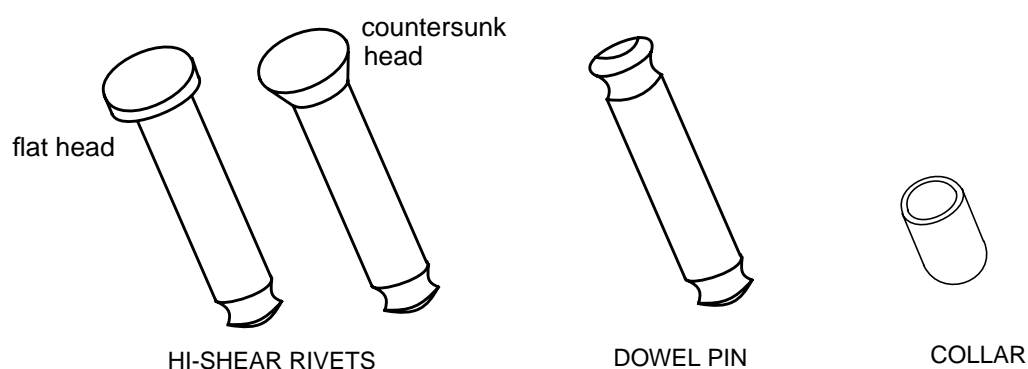

Figure 1 - General Description of Hi-Shear Rivets, Dowel Pins and Collars
4.1.3 Hi-Shear rivets, dowel pins and collars as specified on the relevant engineering drawing. Refer to Figure 1 for a general description of Hi-Shear rivets, dowel pins and collars. Refer to Figure 2 for a breakdown of the Hi-Shear rivet and dowel pin part number. Refer to Figure 3 for a breakdown of the Hi-Shear collar part number. Protect Hi-Shear rivets at all times from dust, dirt, moisture and excessive heat. If possible, keep rivets in their original containers; if this is not possible, keep rivets in non-absorbent containers. Hi-Shear rivet collars are lubricated by the manufacturer; satisfactory installation is not possible if this lubricant has been removed or contaminated.